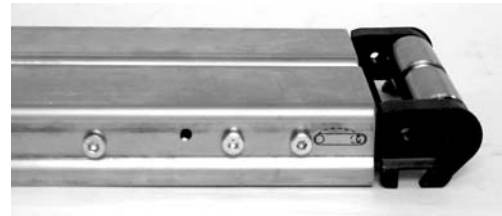

Figure 5
2. Compress tension end (Figure 5). Refer to steps 6 and 7 under the “Belt Removal for Conveyor Without Gearmotor Mounting Package or Stands” on page 9.